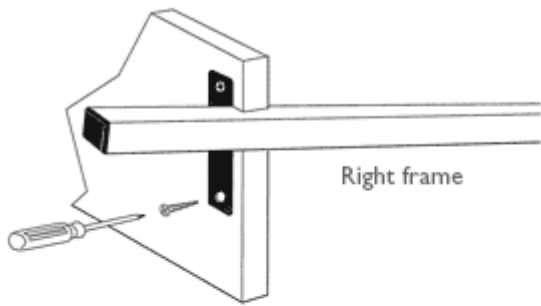

Figure 1
2. Start with the right side rail and attach the largest shelf to the first steel bracket mounted just above the leg. Insert screws into underside of shelf bracket and then up into the pre-drilled holes on the right side of the shelf. Tighten using a Phillips screwdriver (Figure 1).